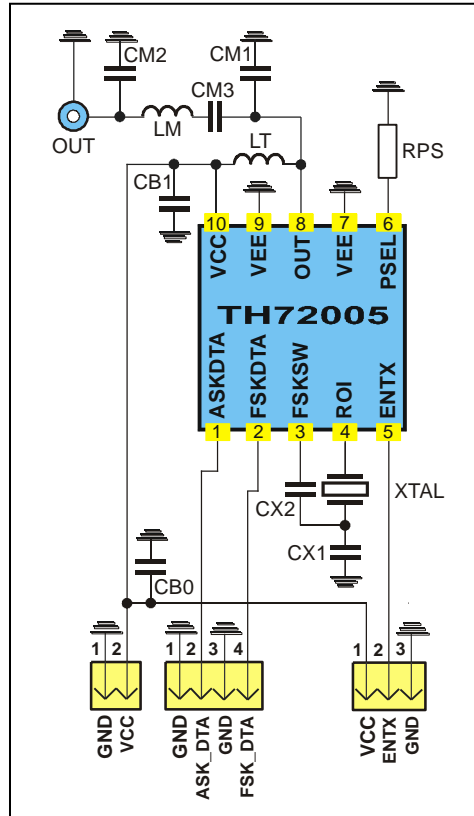

Fig. 18: Test circuit for FSK and ASK with 50  $\Omega$  matching network
typical values at  $T_A = 23\text{ }^\circ\text{C}$  and  $V_{CC} = 3\text{ V}$ ; test circuit shown in Fig. 18,  $f_c = 315\text{ MHz}$
- Data according to test circuit in Fig. 18
### 6.1. Test circuit component list to Fig. 18